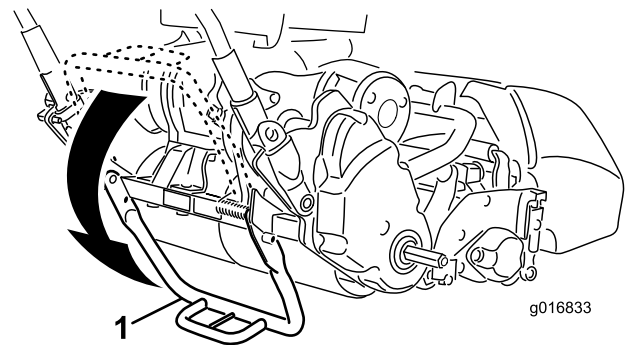

Figure 7
1. Push the kick standdown with your foot **in the center of the kick stand** and pull up on the lower center machine handle until the kick stand has rotated forward, over center (Figure 7).